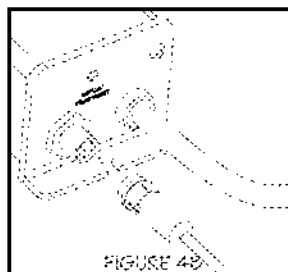
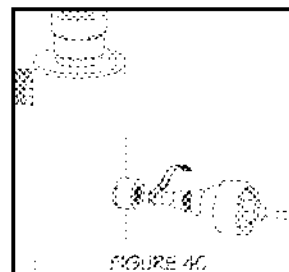

FIGURE 4B
FIGURE 4C
2. Before removing the sensor assembly, follow the steps as outlined in the "Quartz Sleeve Replacement And/Or Cleaning" section. The quartz sleeve should be cleaned at the same time as the UV sensor. Disconnect the UV sensor from the Silver "PLUS" (BA-ICE-SM) controller by disconnecting the sensor cable (Figure 4B). To remove the sensor, grasp the stainless portion of the sensor and rotate counter-clockwise (Figure 4C) until the sensor is free of the threaded sensor port.